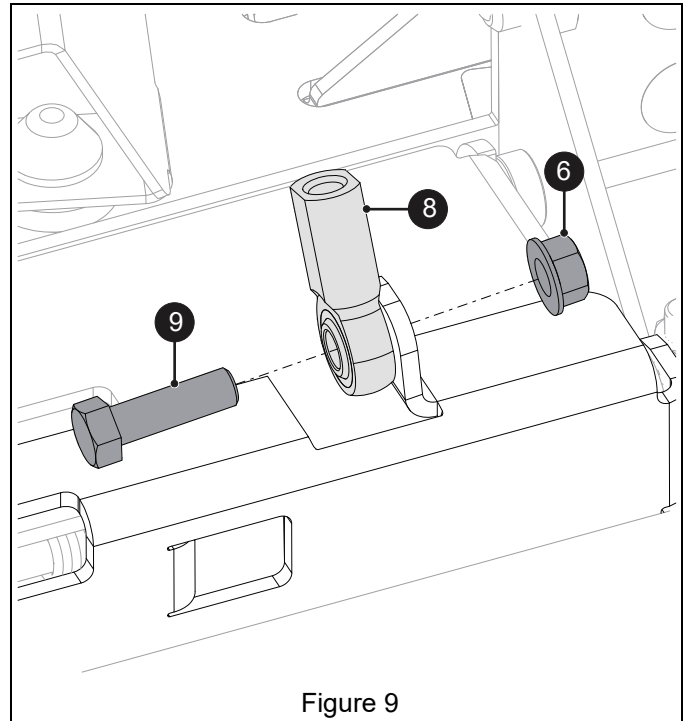

Figure 9
9. Install 3/8" rod end (item 8) to block-off plate using one 3/8" x 1 1/4" hex bolt (item 9) and one 3/8" center locking flange nut (item 6). See Figure 9.